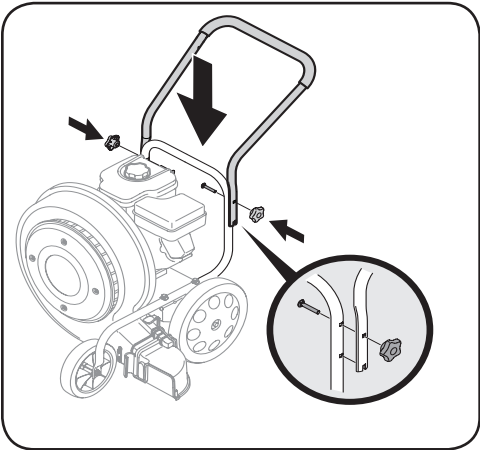

Figure 3-2
2. Place the upper handle over the lower handle, aligning the upper holes/metal tabs in the upper handle with the upper holes/lower holes in the lower handle. Secure the upper handle to the lower handle with the carriage screws (a) and star knobs (b). See Figure 3-2.